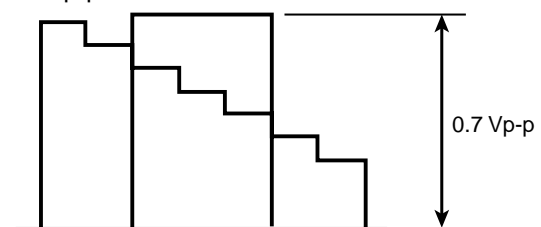

Figure 11.
4. Adjust VR7301 on the I/P board for Y level of Figure 11 to 0.7Vp-p.